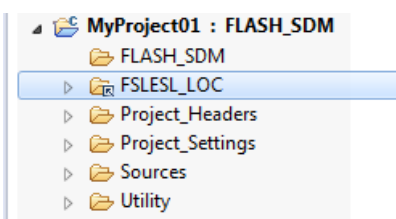

Figure 1-9. Projects libraries paths
5. Click Finish, and you will see the library folder linked in the project. See Figure 1-9
6. Tick the box Relative To, and select FSLESL_LOC next to the box. See Figure 1-9. Click OK.